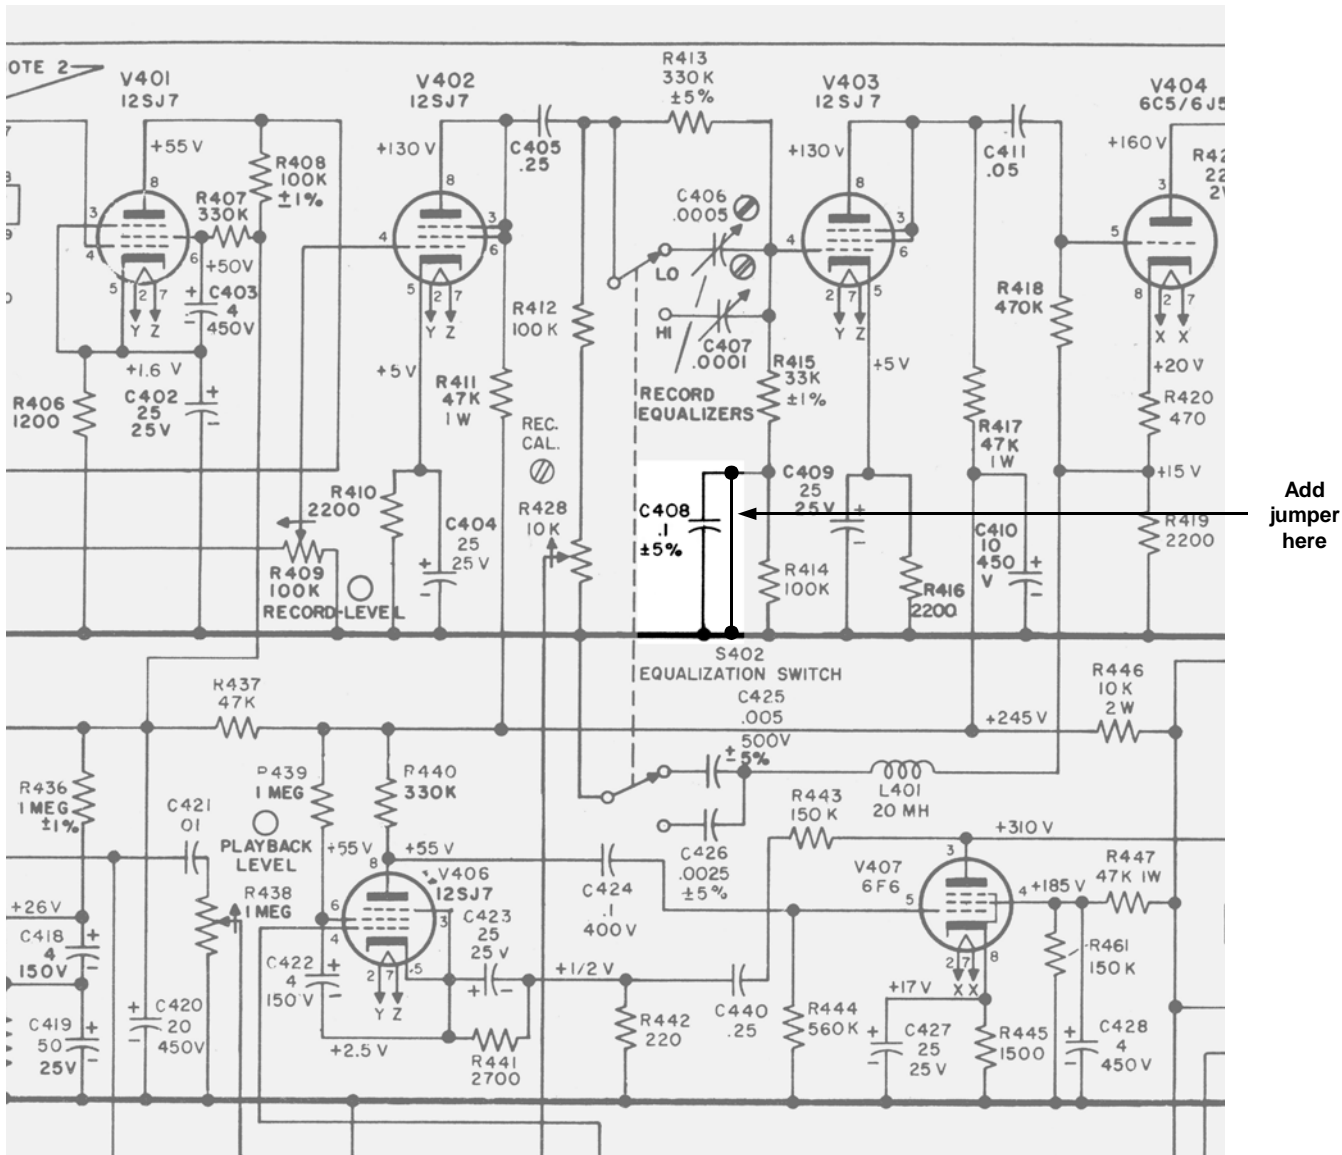

Figure 1. Disabling C408
- 4 Make a jumper from a short length of wire (18 to 22 gauge insulated wire is fine). Solder the jumper across C408 as shown in Figure 1. This shorts the low-frequency record boost (capacitor C408) to disable it (do not remove C408 since at some future time, you may want to re-enable the low-frequency record boost).